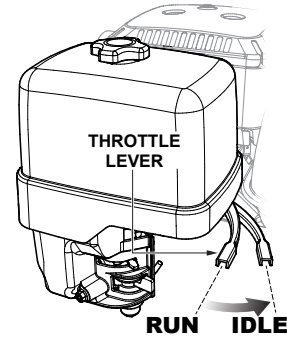

Figure 31. Throttle Lever (IDLE)
1. Place the throttle lever in the **IDLE** (slow) position, and let the engine idle for 3–5 minutes. See Figure 31.